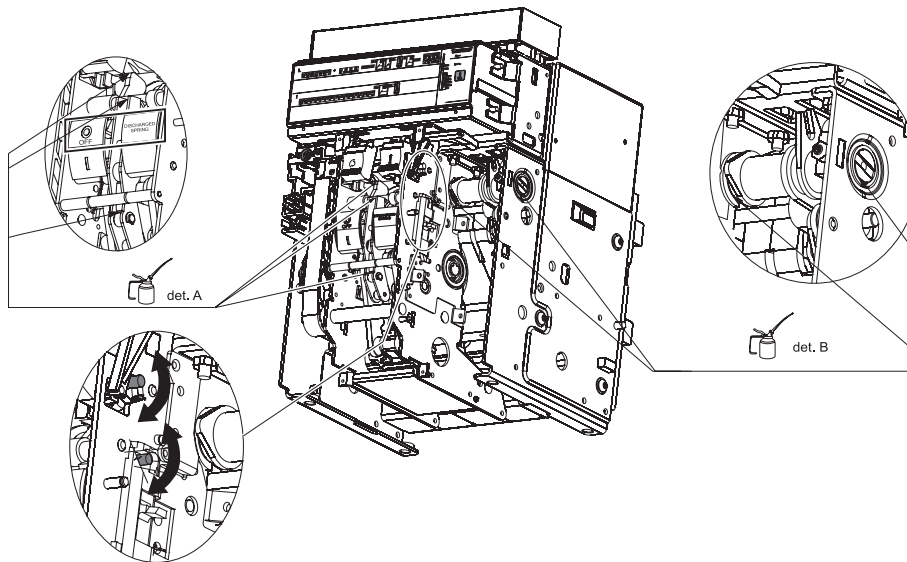

Figure 42.
- Cleaning (for excessive deposits, a dilutant such as Henkel 273471 or the equivalent can be used) and lubricate, at the points indicated in Figure 42, part A, as for First Level, the opening and closing shafts and hooks with MOBILGREASE 28 (EXXON MOBIL).
- Cleaning (for excessive deposits, a dilutant such as Henkel 273471 or the equivalent can be used) and lubricate with MOBILGREASE 28 (EXXON MOBIL) the supports of the operating shaft, including those on the sides of the circuit-breaker (see Figure 42 part B).